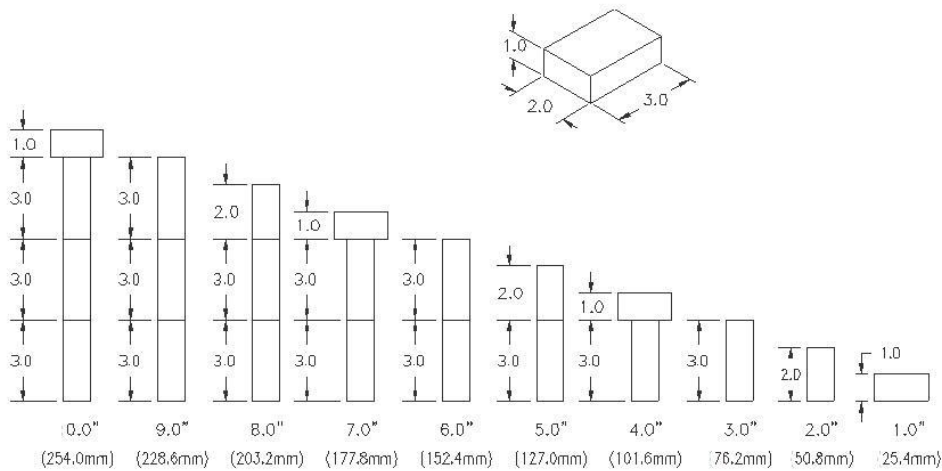

Figure 5.5: Gage Block Orientation
- Be sure the 150mm ram foot and 150mm mold top are installed and the surfaces are clean. Place the gage blocks into the compaction chamber oriented for 10.000 inches (Figure 5.5).
- Repeat the verification procedure for 9 through 0 inch (no blocks) heights. Reference Figure 5.5 for proper gage block orientation.
- Open the compaction chamber door, be sure of the ram foot and mold top surfaces are clean. Place the gage blocks on the ram foot oriented for 6.000 inch. (Figure 5.5)